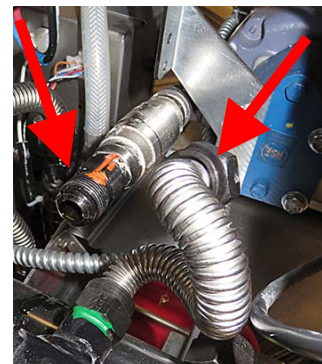

Figure 33
31. Disconnect the flexline from the check valve, connecting the oil manifold to the filter pump (see Figure 33).